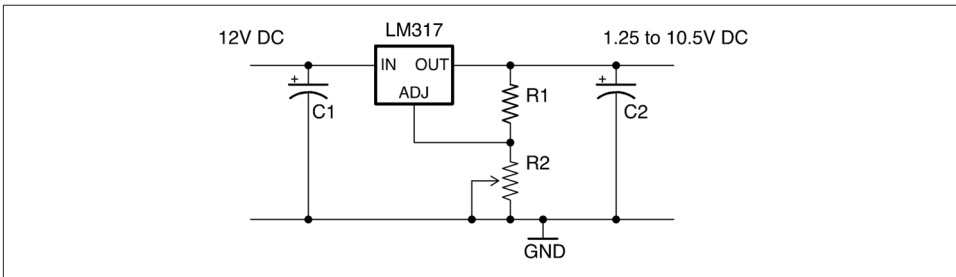

Figure 7-8. Using an LM317 Voltage Regulator
**Figure 7-8** shows a typical schematic for a variable output voltage regulator using the LM317.